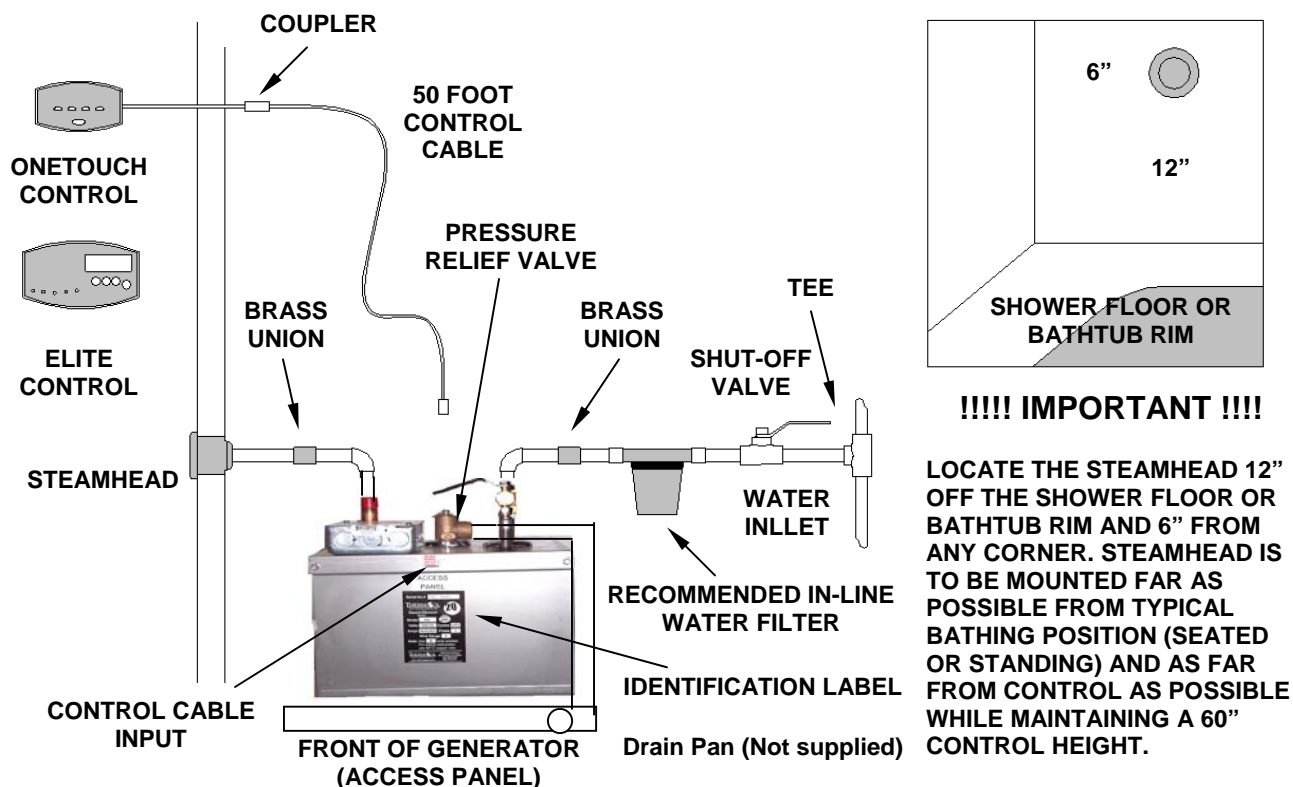

Figure 3
7. Connect a tee to the cold water line. Install copper pipe to the tee (see Figure 3).